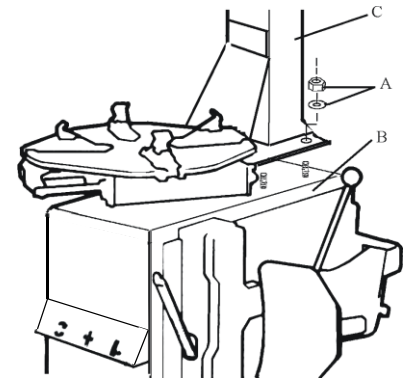

Fig 3
2. Unscrew the nut A on the cabinet body B as shown in Fig 3.